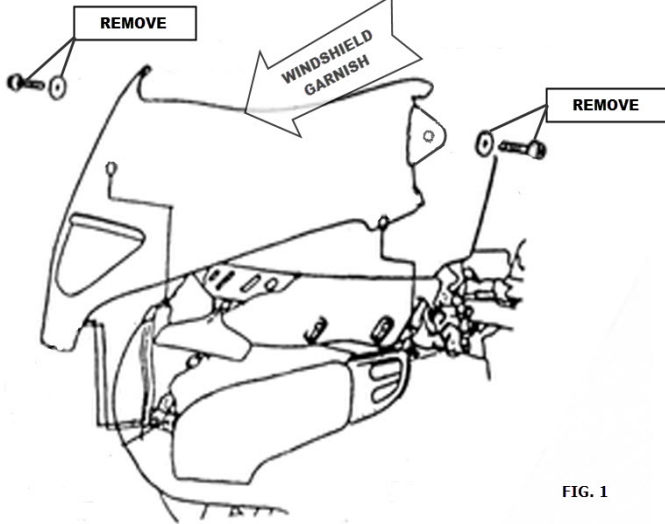

FIG. 1
6. USING A 10MM WRENCH REMOVE THE TWO BOLTS AND WASHERS BEHIND EACH OF THE MIRRORS HOLDING THE WINDSHIELD GARNISH IN PLACE. THEN REMOVE THE GARNISH BY PULLING IT FORWARD TO RELEASE IT FROM THE RUBBER GROMMETS IN THE FRONT CENTER. (SEE FIG.1)